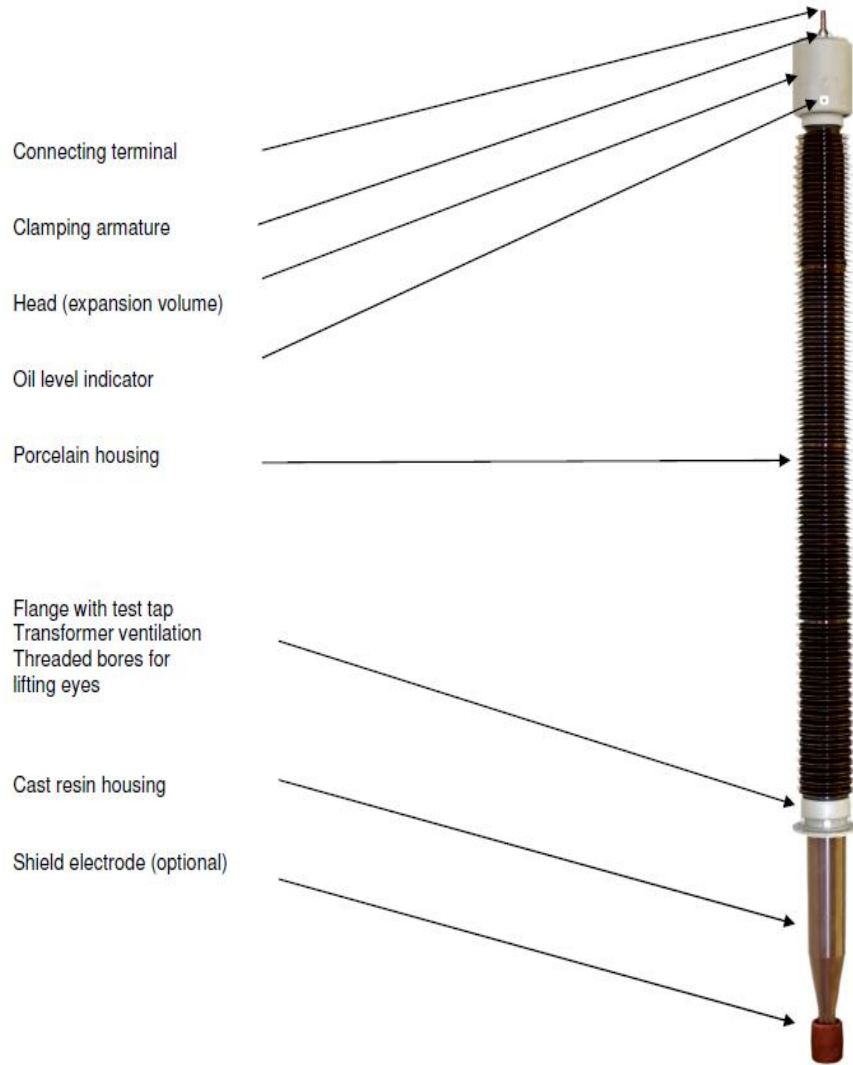
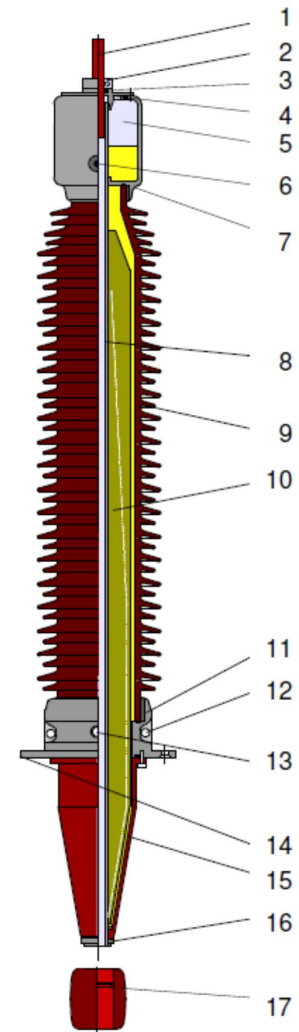

Fig.3 / شکل 3
Fig.4 / شکل 4
The bushing comprised an aluminum head, an insulator of porcelain in OTF model and a Silicone Rubber insulator in OTFS model, a flange in aluminum and a lower insulator in epoxy resin. The flange equipped with a test tap. The main parts of an OTF bushing with porcelain insulator are shown in fig.3.
As shown in fig.4 the main insulation of the OIP transformer bushing type OTF is an insulating body (10). It is made of a special paper impregnated with oil wound onto a central tube (8) and with inserted grading layers of aluminum foil to make uniform voltage distribution along the insulating body and the bushing.
Depending upon the status of dispatch on the transformer side end of the bushing there is a detachable, insulating shield electrode with bayonet lock (17) Fig. 4.
After removing the Top Side of the Crate and releasing the wooden supports, the Bushing shall be visually inspected. Examine all the parts of each bushing, and particularly check the porcelain insulator in OTF model and the silicone insulator in OTFS visually. Any possible trace of oil should be carefully noted, especially the sealing area around expansion tank and around the aluminum flange (Fig.3, Fig.4).
As shown in Fig.3 and Fig.4, the transformer side end of the bushing is made of an epoxy resin. As explained when stored for a longer period of time, they have to be especially protected against moisture and solar radiation (ultraviolet rays). The plastic cover used for the dispatch of the bushings, guarantee protections only for a limited period of time (transport packing).